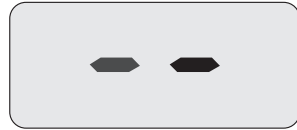
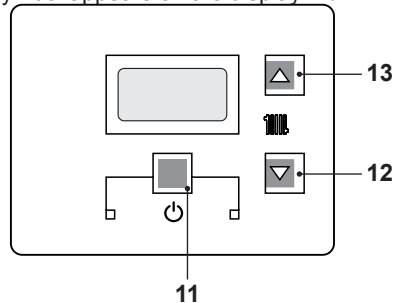

Fig. 7.10
Fig. 7.11
- Electrically power the boiler by switching on the double pole isolation switch. The LCD will display, the  symbol (Fig. 7.10).
- Press the 11 key for 2 seconds until  symbol appears on the display Fig. 7.11.
- Switch off the boiler by pressing the 11 (Fig. 7.11) key for 2 seconds until the  symbol appears on the LCD display (Fig. 7.10).
11 (Fig. 7.11) to reset its functioning.